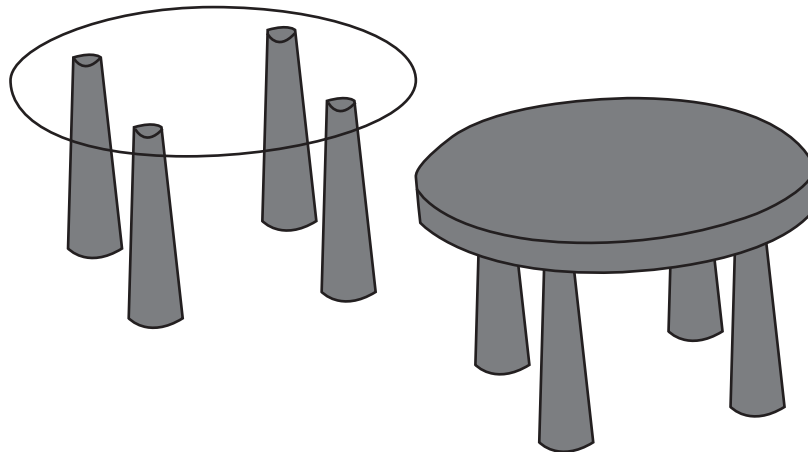

Fig. 1
- (f) The diagram in **Figure 1** shows a stool in 3D. [10]